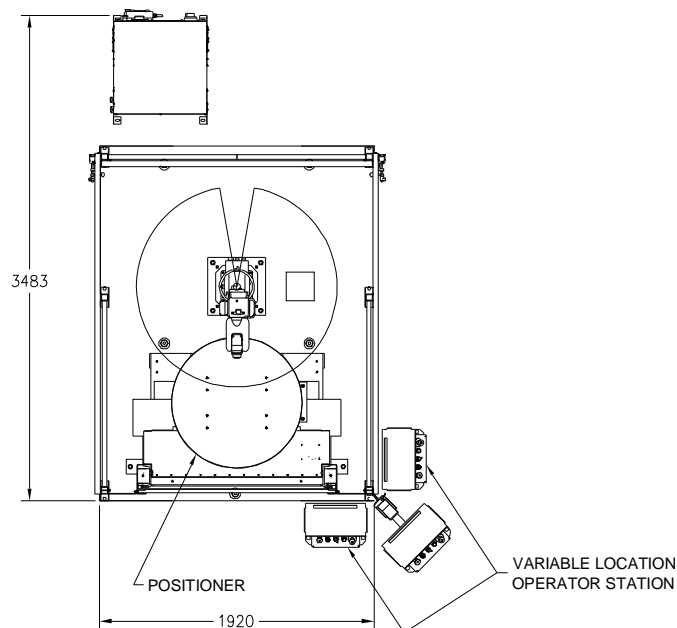

Figure 6 Area Needed for Installation
1. Clear floor space needed for unit (see Figure 6).